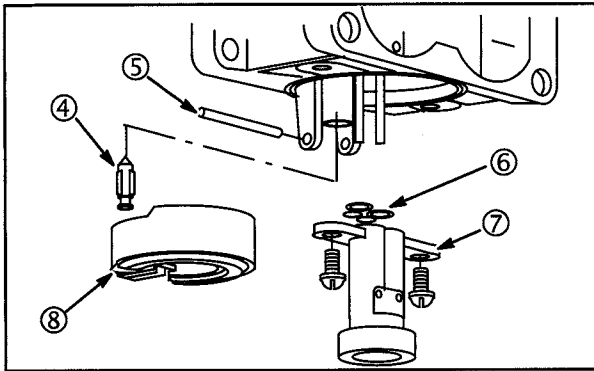

Fig. 118
5. Remove float hinge pin (5), float (8) and inlet needle (4), Fig. 118.
6. Remove emulsion tube body (7) and gasket (6). Discard gasket.